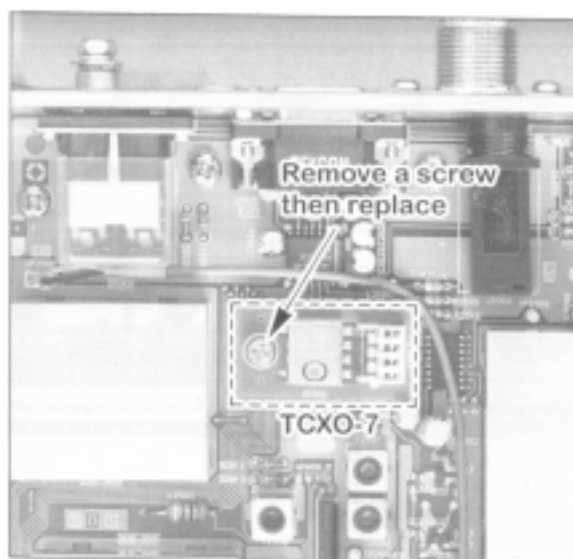

Figure 4
- ③ Refer to Figure 4, and remove the REF OSC UNIT, replacing it with the **TCXO-7**.
- ④ Installation is now complete, as the **TCXO-7** has been carefully aligned at the factory and should require no adjustment after installation. Replace the bottom case of the transceiver.